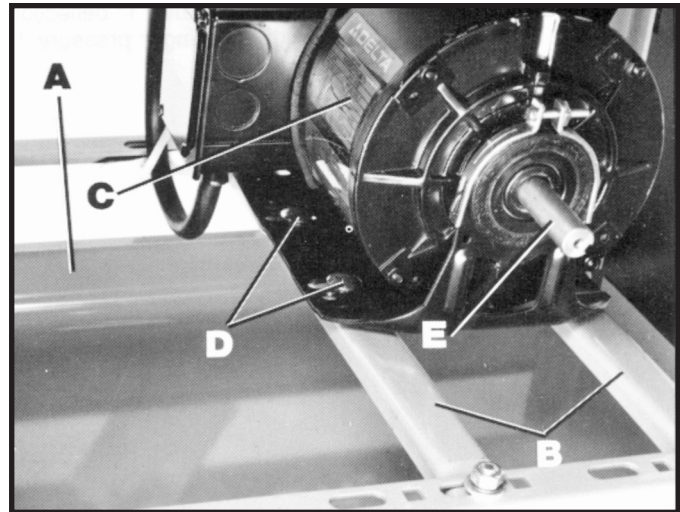

Fig. 3
1. To make the motor assembly easier, turn stand (A) Fig. 3, on its side with two horizontal bars (B) down as shown.
2. Position motor (C) Fig. 3, on two horizontal support bars (B) as shown, and fasten with four $\frac{3}{4}$ long carriage bolts, two of which are shown at (D), and four flanged nuts. **IMPORTANT: MAKE CERTAIN MOTOR SHAFT (E) IS ON THE SAME SIDE OF THE STAND AS THE LARGE OPENING IN THE TOP OF THE STAND BEFORE TIGHTENING CARRIAGE BOLTS (D).** Further motor alignment will be necessary after band saw is fastened to stand.